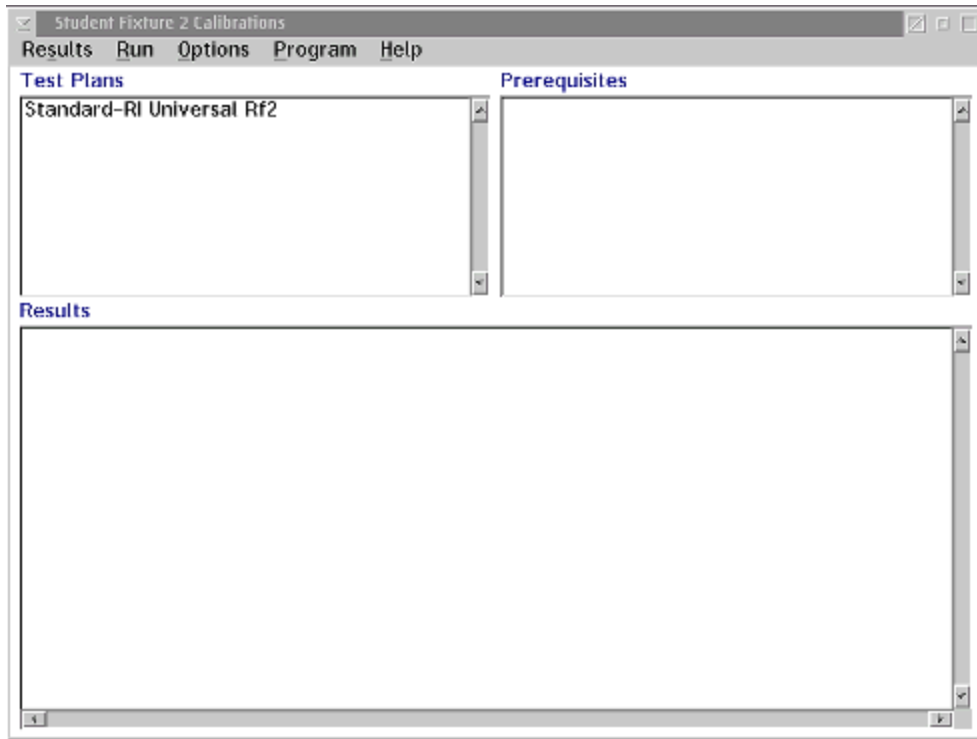
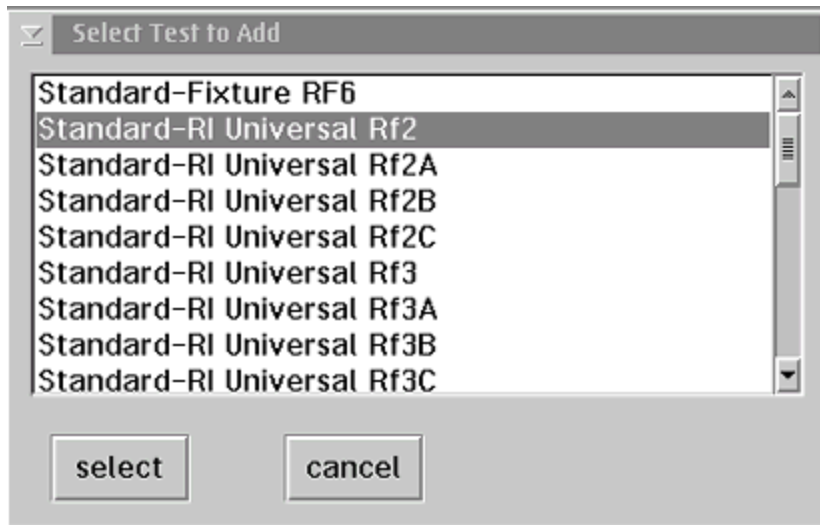

Figure 7
Figure 8
2. Once you have done this a **Fixture Calibrations** window will open with the name of the specific fixture you have highlighted (Fig. 7). Choose **Programs** from the top menu bar and then **ADD**. A list of available calibration routines will appear in list form (Fig. 8). Select the Standard calibration test plan which corresponds correctly to the path you are trying to calibrate. The selected calibration test plans will automatically be added to the **Fixture Calibrations** window.